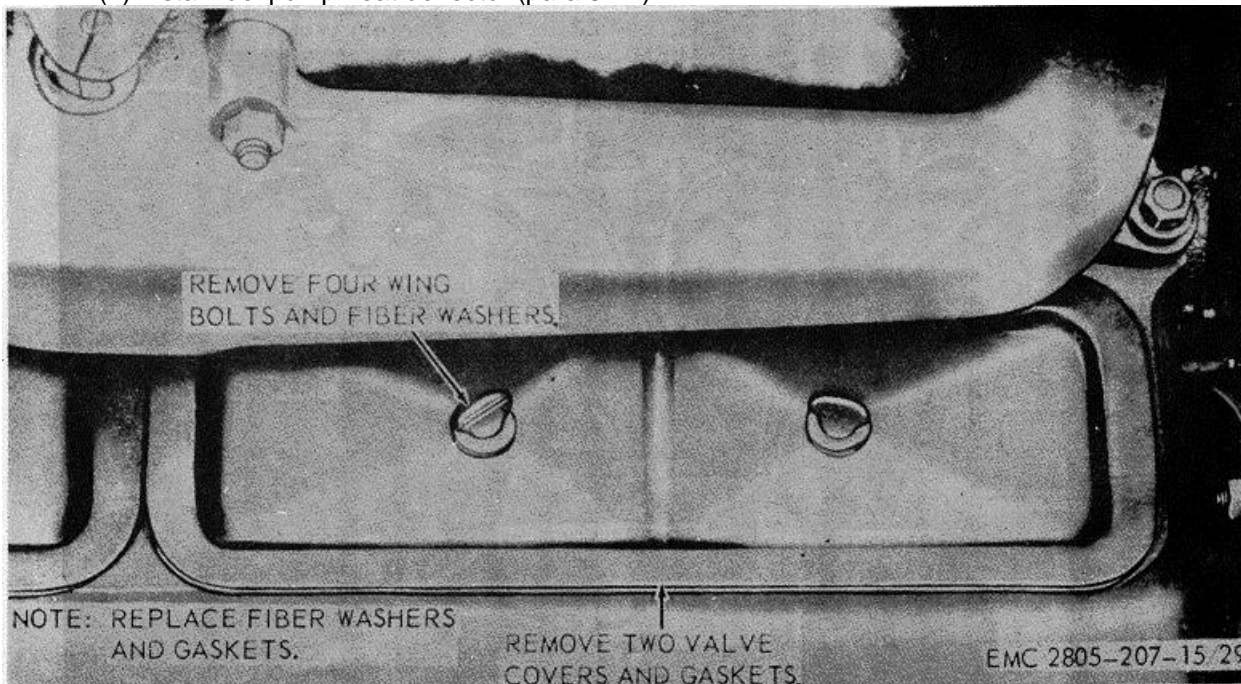

Figure 3-47. Valve cover, removal and installation
- (1) Remove fuel pump heat deflector (para 3-27).
- (2) Remove two valve covers as illustrated in figure 3-47.
- (1) Install two valve covers as illustrated in figure 3-47.
- (2) Install fuel pump heat deflector (para 3-27).